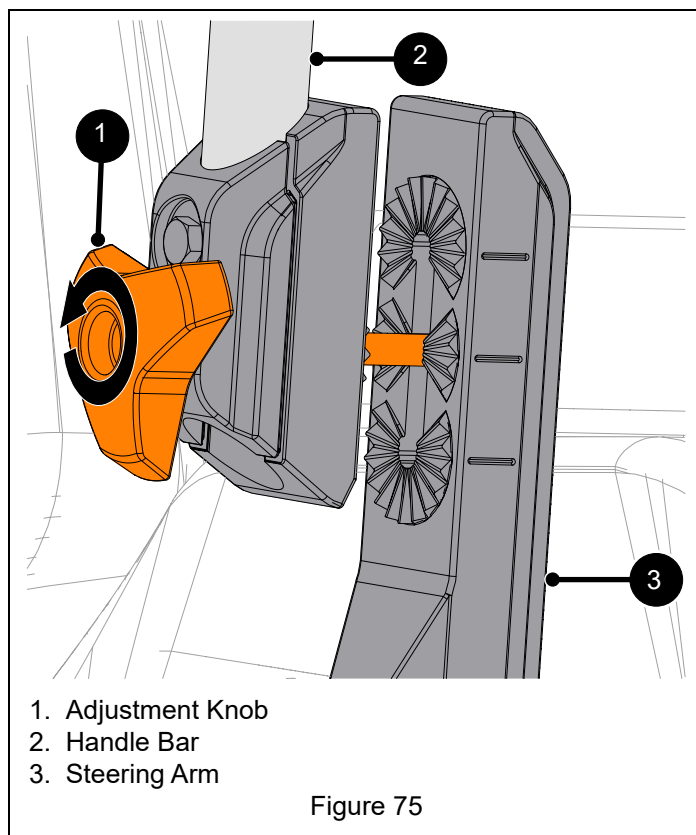

Figure 75
1. Turn steering adjustment knob to loosen connection of steering arm and handle bar. See Figure 75.